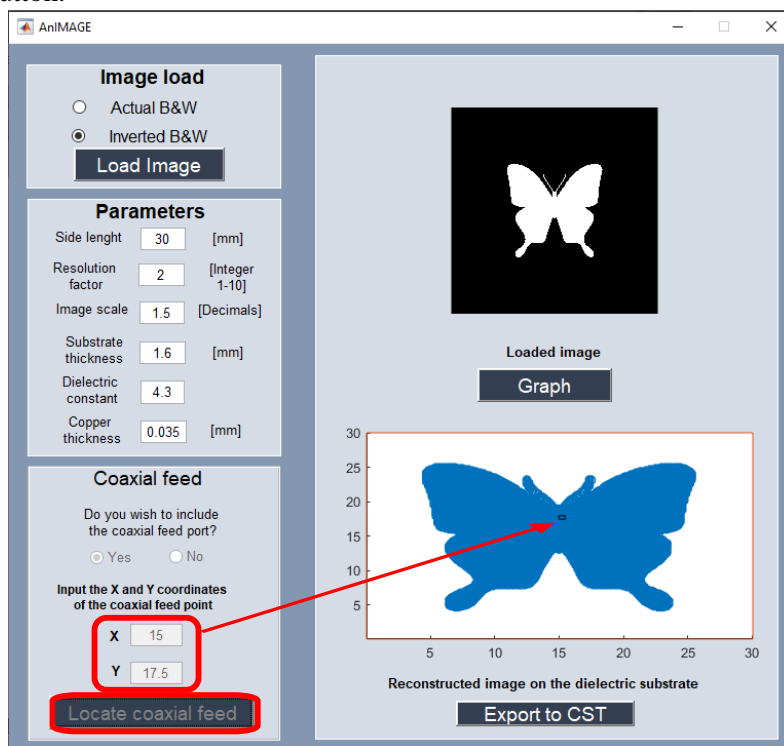

Figure 10. Input the coaxial feed's coordinates in the GUI.
Step 4: Next, AnIMAGE requests the X and Y coordinates in millimeters where you want to place it. For example, we input X=16 mm and Y=17.5 mm as is depicted in Figure 10. After that, click again on the **Graph** button.